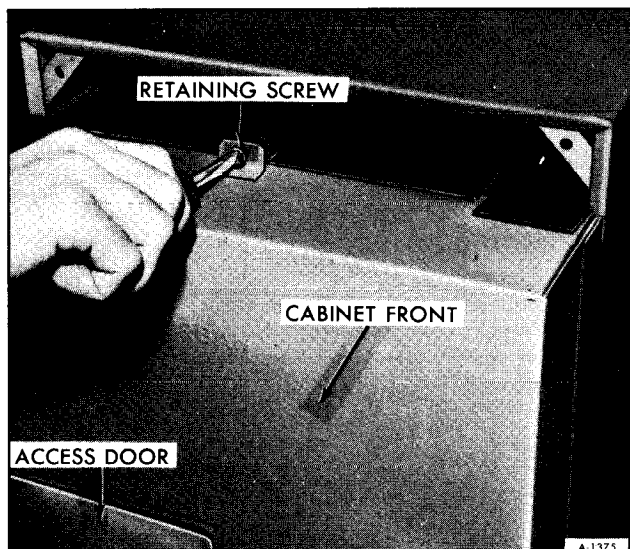

Figure 7—Removing Cabinet Front
3. Remove cabinet front (one screw at top of cabinet front) (figure 7).
4. Install cabinet front being sure the edges are set properly in all groves. Secure with one screw at top (See figure 7).